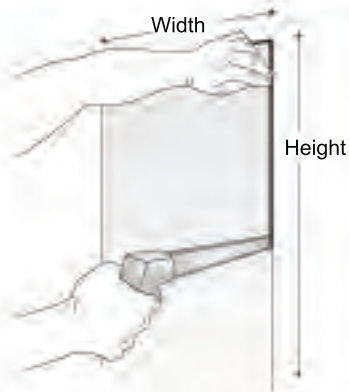

Fig. 1
**For SKU# 59491 Trash Receptacle (16" cavity)** cut hole that is 15.75" wide by 54" long at recommended height of 3" from floor (see Fig. 1).
**For SKU# 59471 Trash Receptacle (12" cavity)** cut hole that is 11" wide by 57.5" long at recommended height of 4" from floor (see Fig. 1).